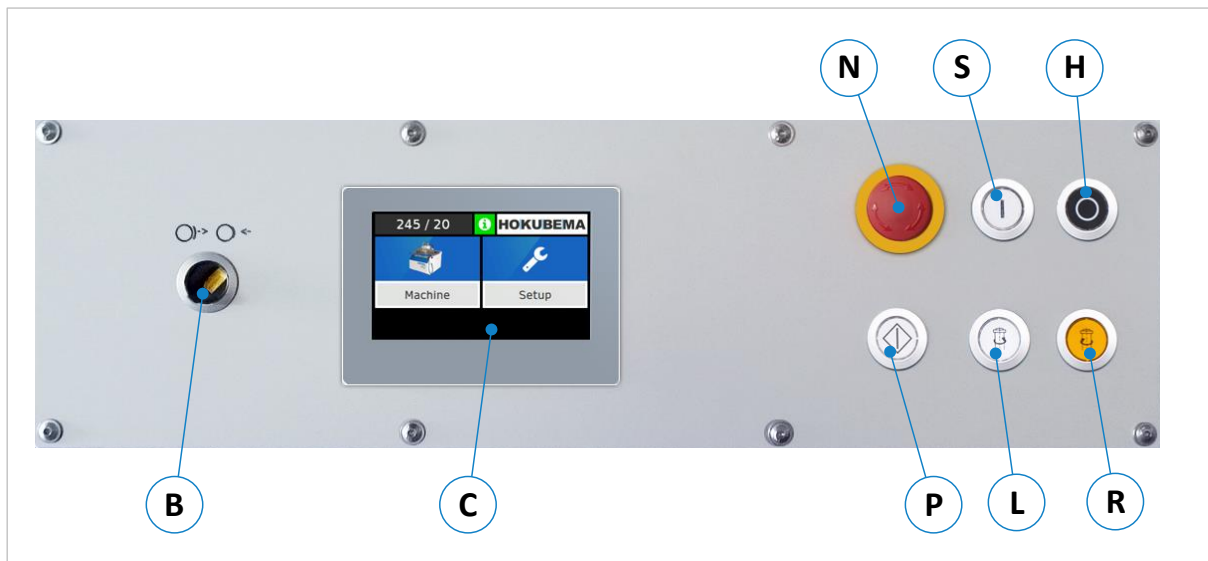

Figure 12: Control panel
- Before changing the tool, switch off the spindle drive with the button  (see ⇒ Figure 12). Then wait approx. 15 seconds → The motor brake opens automatically
2. Press the emergency stop button (4) and leave it locked.
3. Turn the brake release switch (B) to the left “**Brake released**” position so that the spindle can be rotated manually (see ⇨ Figure 12).